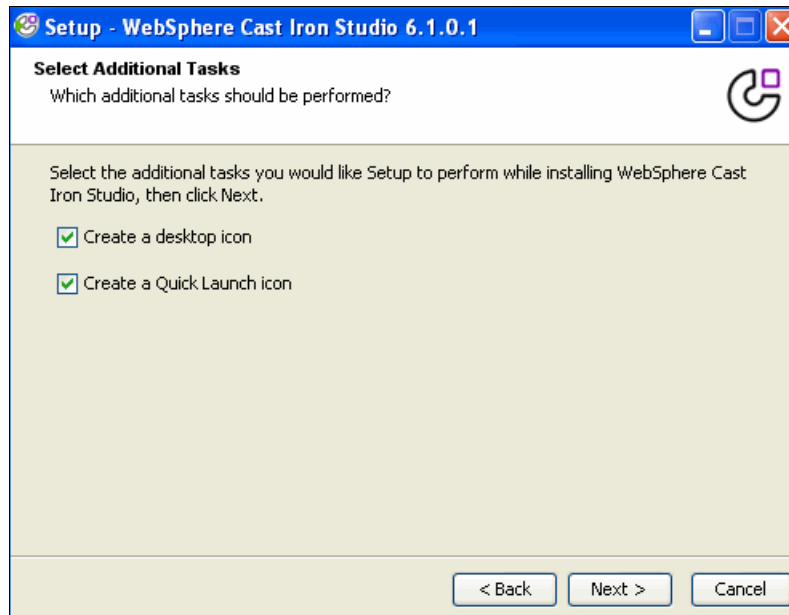

Figure 2-6 Studio installation Additional Tasks
7. Accept the default options for Additional Tasks, as shown Figure 2-6. Click **Next**.